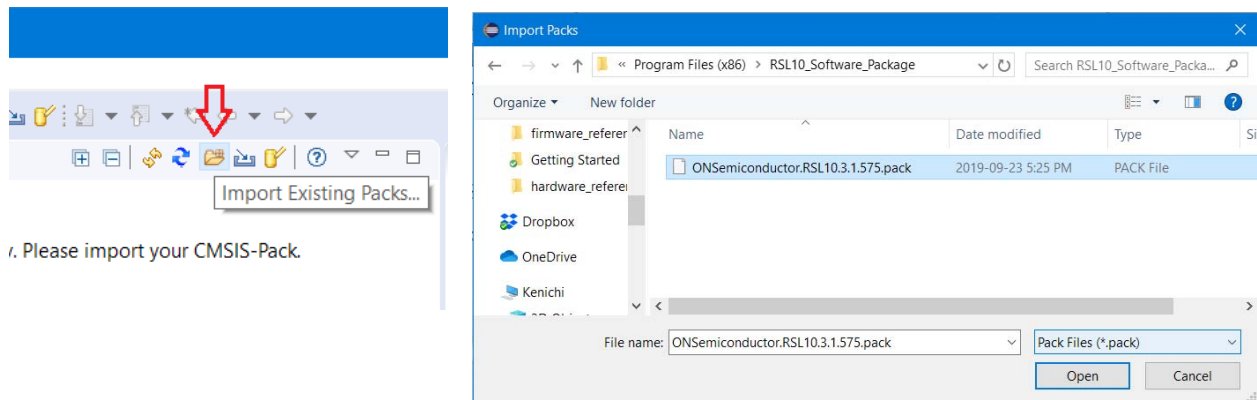

Figure 3. Installing the RSL10 CMSIS-Pack
4. Click on the Import Existing Packs icon, select your pack file *ONSemiconductor.RSL10.<version>.pack*, where *<version>* is a number such as 3.1.575, and click **Open** (see Figure 3).